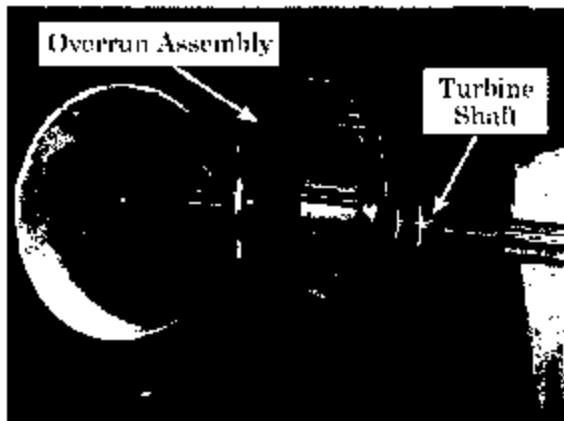

Figure 24
50. Remove the 1th clutch & 4th retainer from the overrun assembly (*see figure 24*).
51. Reinstall the turbine shaft and overrun assembly (*see figure 24*).